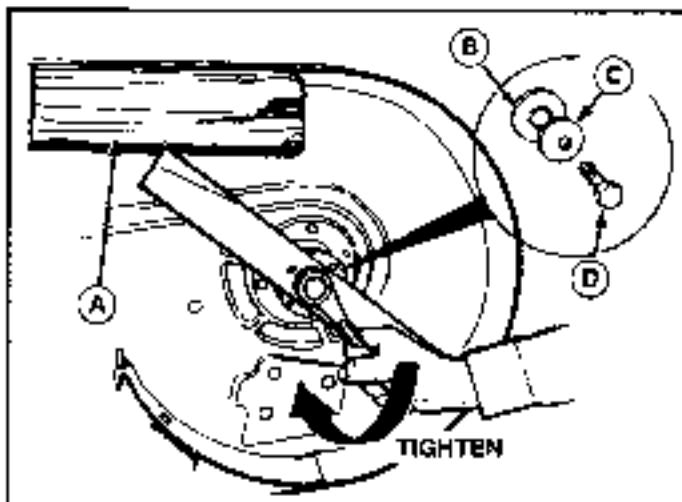

Figure 25. Installing The Blade
6. Reinstall each blade with the tabs pointing up toward deck as shown in figure 25. Secure with a cap screw (D), cup washer (C) and spline washer (B). Use a wooden block to prevent blade rotation and torque cap screws to 50-70 ft.lbs. (67-95 N.m.).